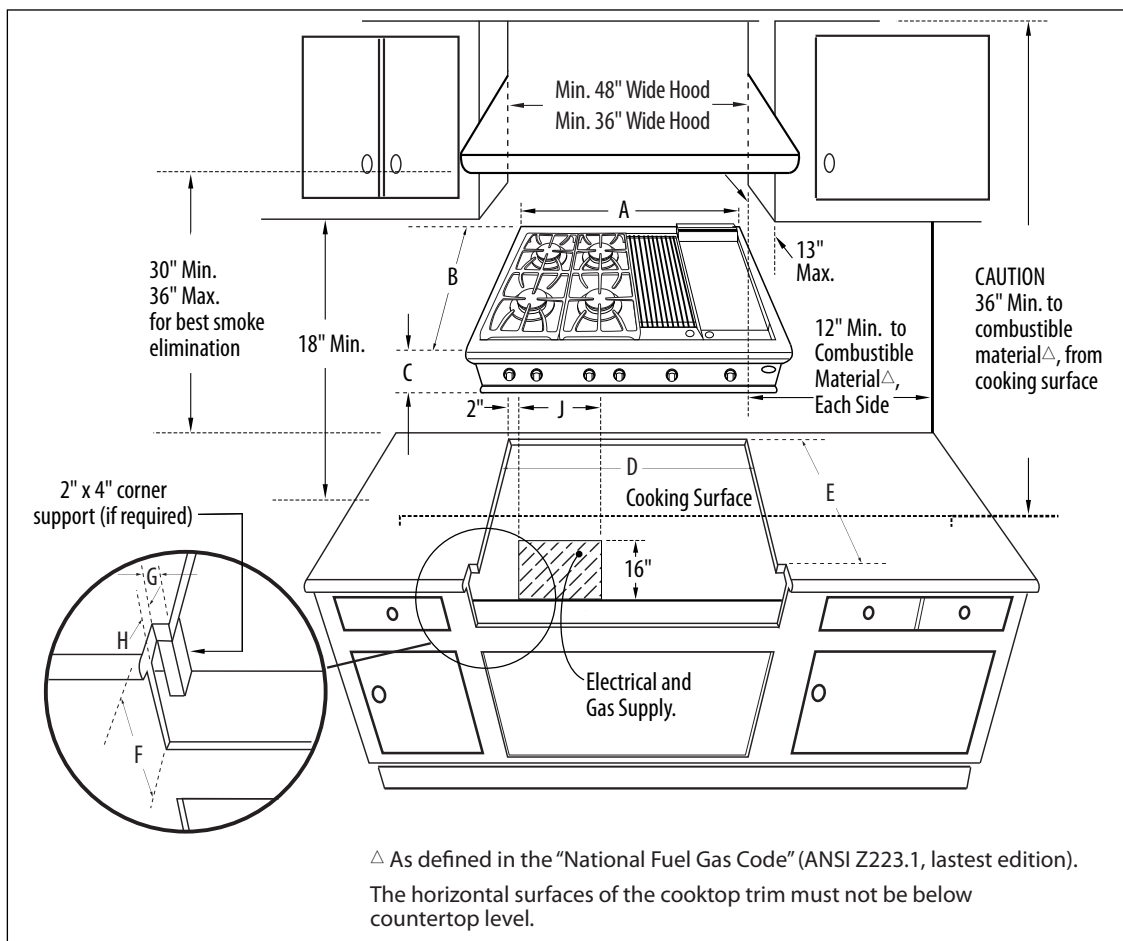

Fig. 3
3. The cooktop is designed to hang from the countertop from its rear and side flanges. The countertop, however, must be strong enough to support this heavy cooktop. It may be necessary to add a supporting cleat along each side or another form of support such as a 2" x 4" corner brace on each side, or a deck to set the cooktop on. See Fig. 3 & 5.